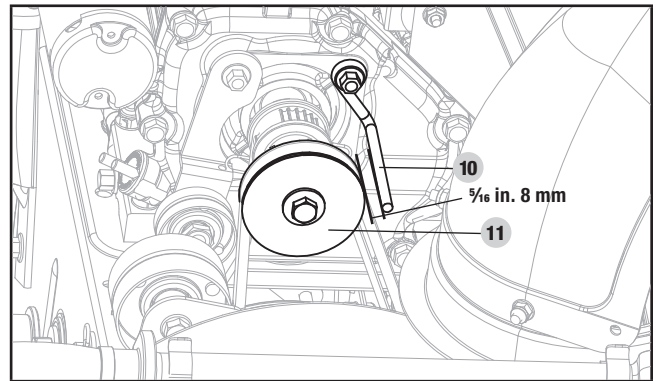

Figure 25
9. Once the belt is replaced, tighten the 20 mm bolt (6), ensuring the clearance between the belt lever (10) and the pulley (11) is $\frac{5}{16}$ in. (8 mm) (Fig. 25).